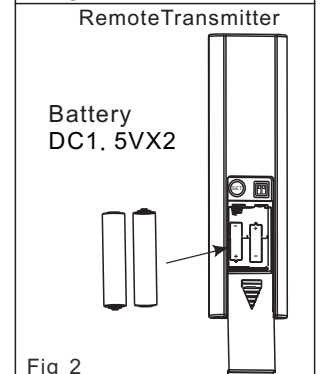

Fig 2
Pre-install two canopy screws on the opposite sides of the hanger bracket. (Do not tighten) (Figure 2)
1. Use 2 1.5V/AAA battery to replace battery. (Fig. 2)